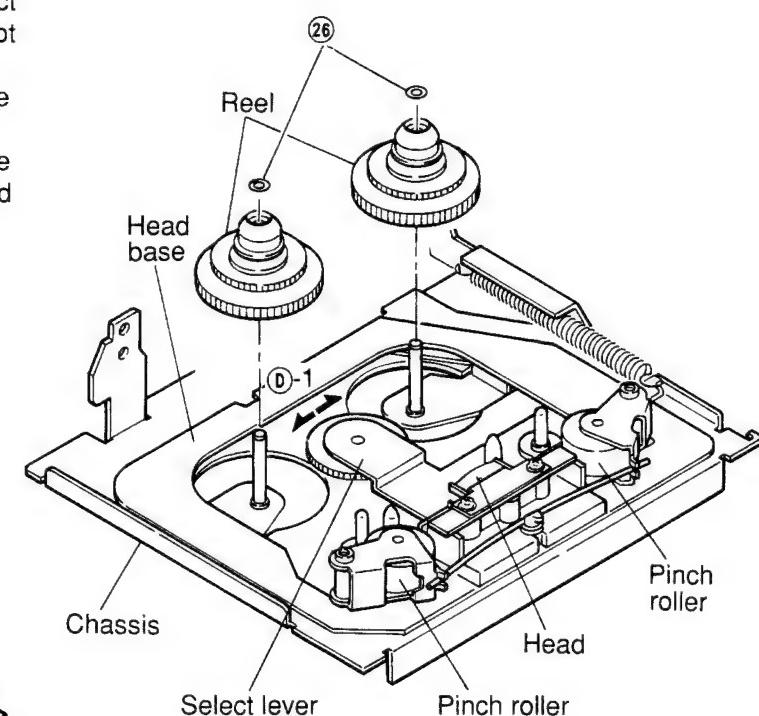

Figure 19
- (1) Remove M1.7 two lock washers ⑦ (Refer to figure 19).
- (2) Move the select lever in the direction marked ⑧-1 in the Figure and remove the reel by gripping the reel gear as shown in Figure 19.
- (3) After replacement, mount the new reels following the removal steps in the reverse order.
- (4) After mounting, check the tape speed and the wow and flutter with test tape MTT-111.